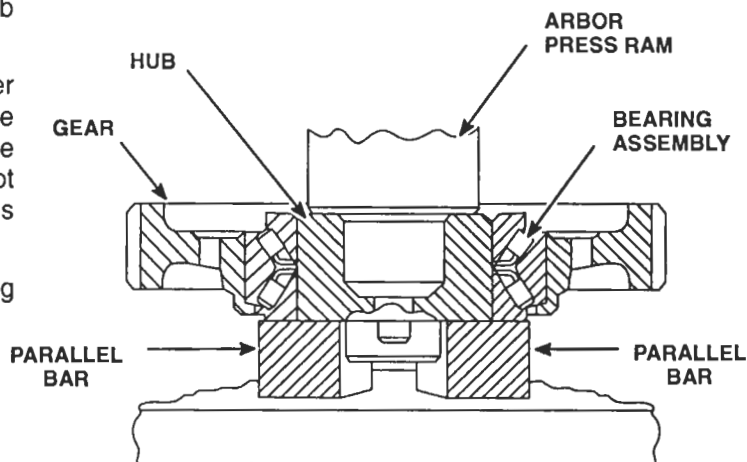

Figure 5. Pressing Hub into Bearing
10. Press the outer idler gear bearing cone over the hub while rotating the gear to seat the rollers properly between the cones. The bearing cones must be supported so as not to load the bearing rollers during this operation (Figure 5.)